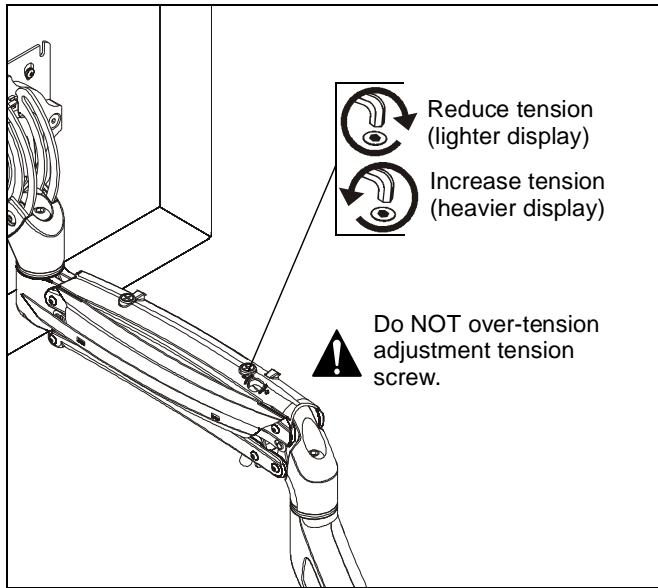

Figure 9
1. Tension may be adjusted with tension adjustment screw inside cable management cover and 1/8" hex key (M). (See Figure 9)